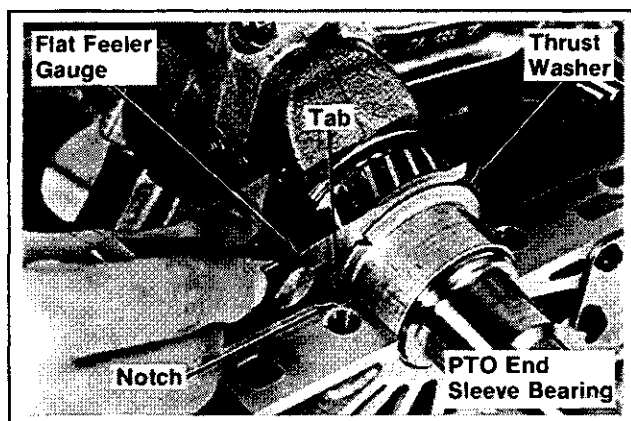
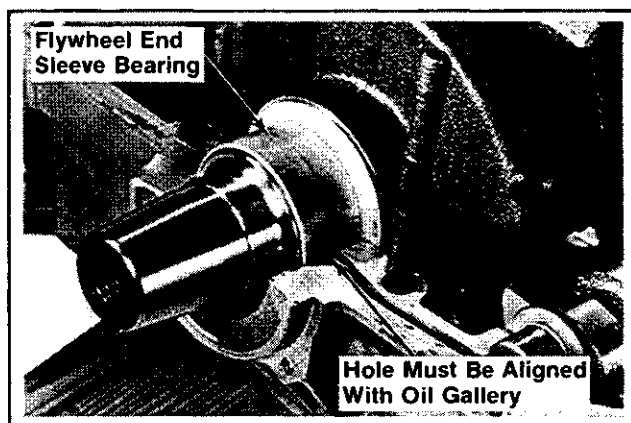

Figure 11-11. Position Of PTO End Bearing/Measuring Crankshaft End Play.
Figure 11-12. Position Of Flywheel End Bearing.
3. Install the crankshaft with connecting rods and bearings into crankcase. Make sure the locating tab of PTO end sleeve bearing is positioned in notch in crankcase. Refer to Figure 11-11. The oil hole in flywheel end sleeve bearing must be aligned with the oil gallery in crankcase. Refer to Figure 11-12.
4. Measure the crankshaft end play with a flat feeler gauge. The recommended crankshaft end play is $.002/.014$ ". Refer to Figure 11-11.